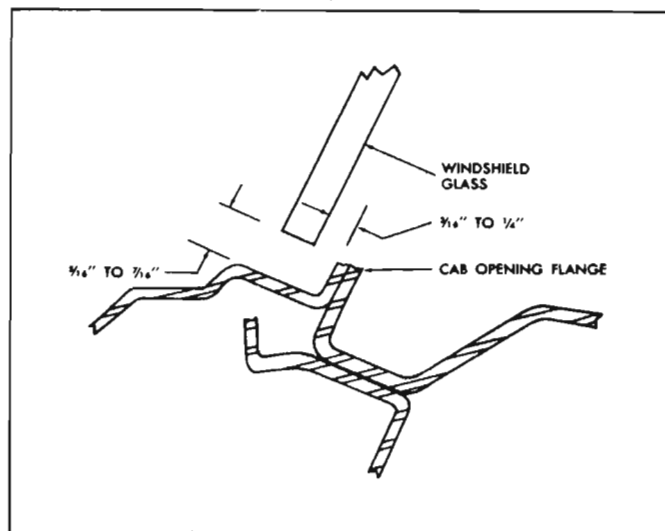

Fig. 10-20a—Windshield to Body Clearance
6. Figure 10-20a is a cross section taken through the glass channel and body opening. Check the relationship of glass to opening as follows: